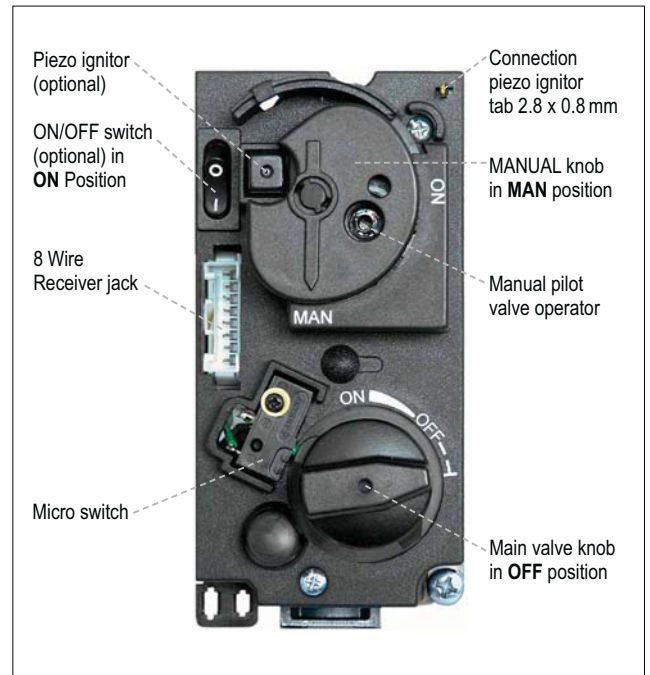

Figure 24: Combination control, cover
5. Wait five (5) minutes to clear out any gas. Verify that no gas is in the area around the appliance, including near the floor. **If you detect gas STOP! Follow "WHAT TO DO IF YOU SMELL GAS" in the safety information on page 2.** If no gas is present, proceed to step 6.
8. Fully push down manual pilot valve operator and hold in, to start pilot gas flow (see figure 24).
Change the ignition cable from the receiver to the valve (see figure 24). Push in the piezo ignitor to ignite. If pilot does not stay lit, wait five (5) minutes and repeat.